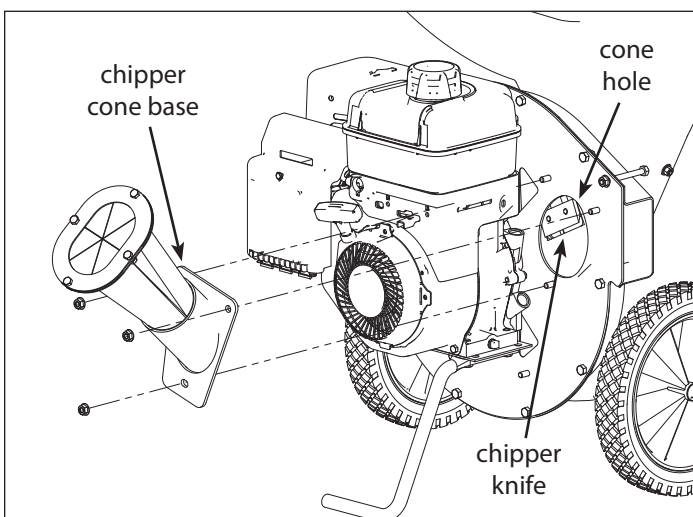
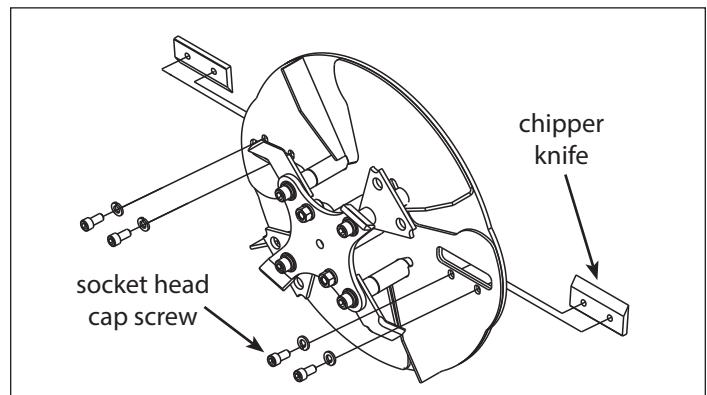

FIGURE 20 - Removing the Chipper Cone
FIGURE 21 - Removing the Chipper Knives
5. Remove the chipper cone base. Rotate the rotor such that one of the chipper knives is visible through the cone hole. **SEE FIGURE 20**
6. Using a 1/4" hex wrench, reach into the main housing and remove the two socket head cap screws and the chipper knife (**SEE FIGURE 21**). Make sure to hold onto the chipper knife through the cone hole, be aware of the sharp cutting edge. **SEE FIGURE 20**